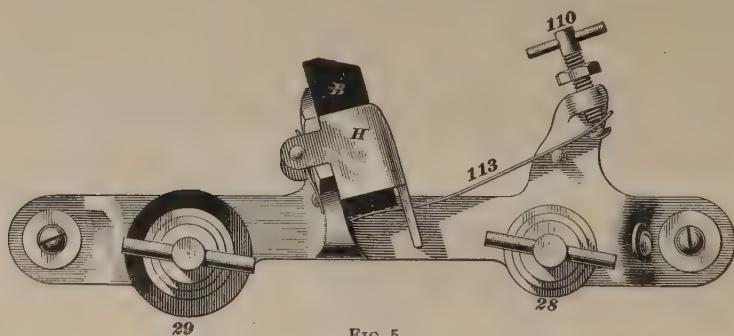
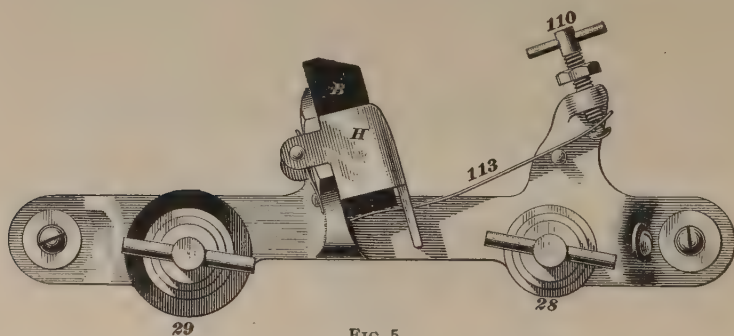
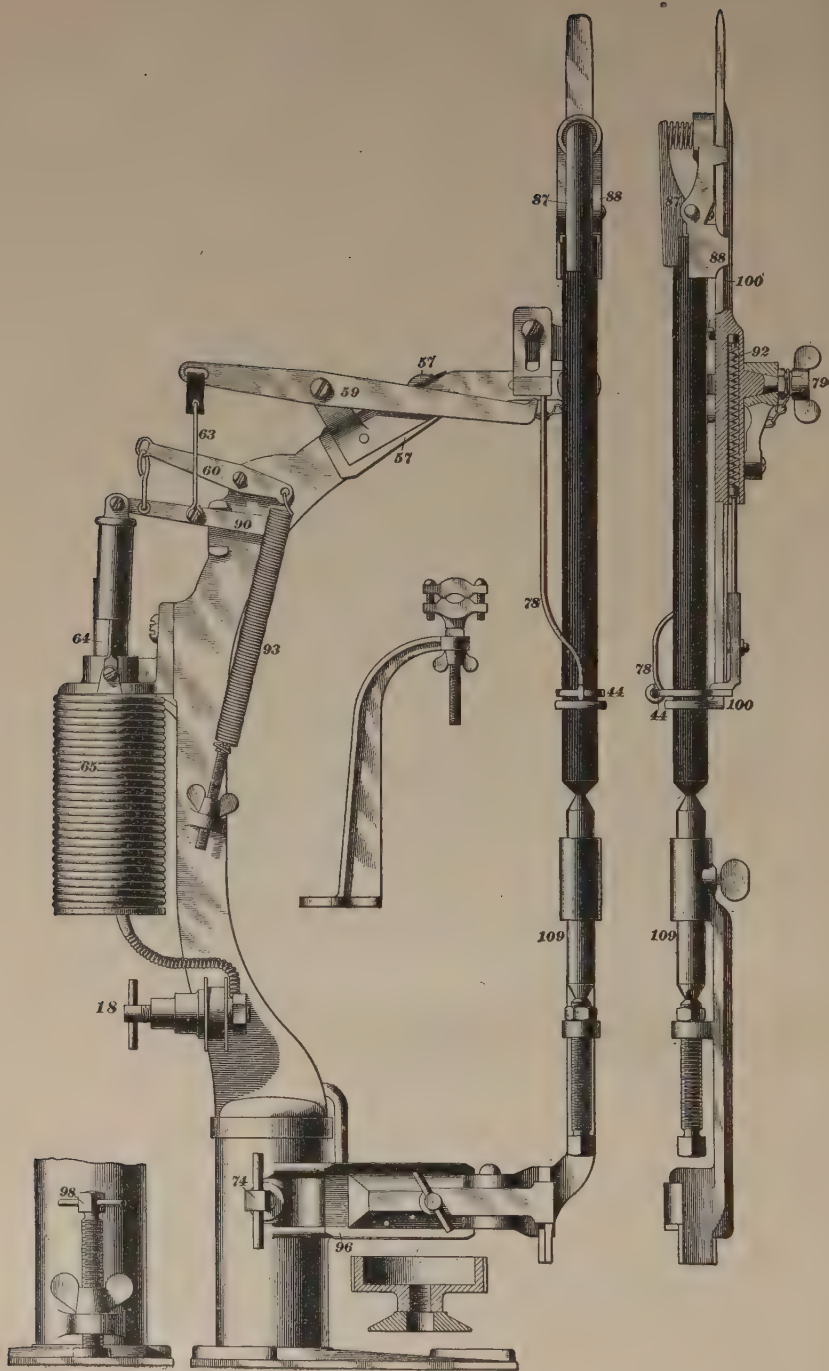
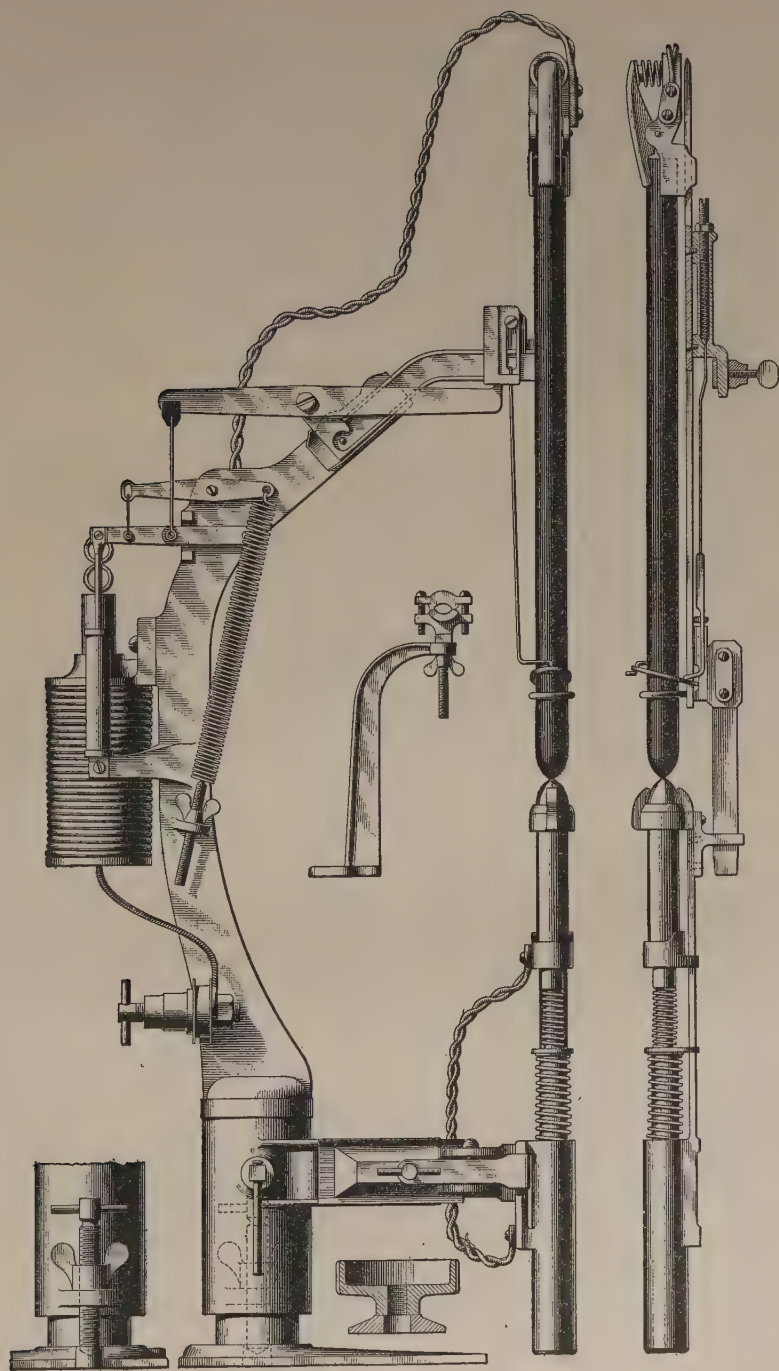

FIG. 4
FIG. 5
FIG. 8
FIG. 9
The armature revolving at high velocity between the pole pieces 7 (which are connected by the upper and lower fields 152), generates the electricity, which it delivers to the commutator 12; from which it is connected by two brushes *B*, *B*, Fig. 4, one of which is shown in *B*, Fig. 5. These brushes, held in suitable brush holders *H*, Fig. 5, transmit the current to the lamp by aid of suitable wires insulated with a
12. When the dynamo is working properly, no sparks should be seen at the brushes. The upper brush is made of graphite, the lower one, shown at *B*, Fig. 5, is of carbon. When it is necessary to remove these brushes for any cause, they can be taken out without disturbing the tension of the springs 113. The tension of this spring, adjusted by the thumb nut 110, should be just sufficient to hold the brush in such contact with the commutator as will prevent sparking; too much tension will result in undue wear and heating of the brushes and commutator. Ordinarily, the spring 113 will have the proper tension when the end supporting the brush will rise from $\frac{3}{16}$ to $\frac{1}{4}$ inch if relieved. This adjustment should be looked after daily, depending on the hardness of the brushes. The brushes should fit the commutator perfectly; if the fit is poor, or if the brushes do not make good contact with the commutator, they will spark badly.
13. The lamp is a self-adjusting arc lamp, and, if properly cared for and a clean reflector used, gives an intensely brilliant light. The wires used to convey the current from the dynamo to the lamp and back again, connect with the dynamo binding posts 28 and 29 in the lower brush holder, Figs. 4 and 7, and
lead to two binding posts on the lamp. Unless the binding posts of the dynamo or lamp are removed and their positions changed, it is impossible to misconnect the wires between the dynamo and lamp, since the two wires are of different sizes. The holes in the binding posts also are of different sizes, to correspond with the wires they are to hold. The lamp, Fig. 8, has two binding posts, the right one, 18, and the one on the opposite side of the lamp directly back of it, so that it is not seen in the figure. The positive wire from the dynamo connects with the left binding post while the negative wire—the wire that carries the current from the lamp to the dynamo—connects with the binding post 18. The positive binding post has the largest hole through it. If the size of wire used for each side is the same, the ends of one of the wires should be doubled back at the ends for about an inch. This will keep this wire from going in the small hole, so that it can be used for one set of binding posts only.
If the lamp burns with a peculiar green hue, throwing little or no light, the current is reversed, passing through the lamp the wrong way. This may happen by reason of binding posts being removed and having their positions changed in replacing. At other times, the dynamo may reverse its current without apparent cause. This occurs but seldom and is caused by some radical changes brought about by exposure to strong magnetic influences. When the current is reversed through the lamp, the trouble can be readily overcome by reversing the position of the binding posts 28 and 29 in the lower brush holder, Fig. 4, putting post 28 in place of post 29, and vice versa, taking care not to disturb the fibrous insulation under the posts.
14. The current flowing from the dynamo enters the lamp at the left binding post, which, in Fig. 8, is behind the binding post 18. From this, it passes through a No. 8
15. Before starting the lamp, see that the point of the lower copper electrode 109, Fig. 8, is clean and free from scale; this scale is formed when the lamp is idle, and should be removed with a file, maintaining an angle of about 45°, with a point $\frac{1}{8}$ inch in diameter. When this scale is allowed to accumulate, it acts as a non-conductor and prevents the current from passing through, and no light can be had until it is removed. This electrode also should be clean where it makes contact with the holder, as any foreign substance has a tendency to insulate the copper from the holder. If the copper electrode burns or melts off at the upper end, the equipment is running too fast and the speed should be promptly reduced by throttling the steam. As before stated, this is shown by a greenish instead of a white light from the arc. When satisfied with the condition of electrode 109, a carbon should be put in by removing the carbon holders 87
and 88 from the guide 100. After securing the carbon in the holder, grasp it by the thumb and forefinger, with the remaining fingers resting on guide 100; then it can readily be put in place. With a little practice, the lamp can be trimmed in a very few moments, and in the dark if necessary. After putting in a new carbon, always push down on lever 90, Fig. 8, and notice if the carbon lifts and falls freely. If it does not lift, it is not in proper place in the clutch 44; if it does not fall down freely, turn it around until a free movement is secured. A carbon should burn 8 or 9 hours. Before putting a carbon into the lamp, see that it is smooth, and that it is free from cracks, so it will work freely through the carbon holders. The best carbons are none too good for this service.
16. The tension spring 93, Fig. 8, serves two purposes: First, it brings together the points of the carbons so as to establish the arc when the dynamo is set in motion, a complete circuit being necessary to establish a current; if the carbons are separated but a fraction of an inch, the lamp will refuse to work, the current refusing to jump across the separation. The presence of oxidation or scale on the electrode will cause this separation of the carbons, though, to all appearances, an actual contact exists. Second, with the lamp properly trimmed, steam turned on, and the dynamo set in motion, the spring 93 performs its second function. As the current enters the lamp and passes through the solenoid 65, the iron magnet 64 is drawn down, thus providing, through the medium of the lever 90 and lever 59, for the necessary separation of the carbons. The spring 93 is connected to the end of lever 60 and exerts a force in the opposite direction to that of the solenoid. When this spring is properly adjusted, it prevents the solenoid pulling the carbons too far apart. If it is too strong, the magnet will be unable to pull the carbons apart and no light will be produced. This is noticeable when running with low steam pressure. If the dynamo is run long in this condition the heat generated by the current will be sufficient to burn out
17. Adjusting the Clutch.—If the carbon feeds too fast, the clutch rod 78, Fig. 8, should be adjusted to take up
18. The lamp can be moved in all directions for focusing. The vertical focus regulates the distance at which the light will strike the track in advance of the locomotive. To get the proper vertical focus, loosen the setscrew 74, Fig. 8, and move the lamp up or down by changing the adjusting screw 98. To make the light strike closer to the engine, raise the lamp; to make it strike farther away, lower the lamp. To move it sidewise, backwards, or forwards, loosen the hand nuts above the foot-piece, placing the lamp in the proper position, and tighten them up in place. The light should leave the reflector in parallel lines, and, to secure this result, the point of the copper electrode must be as near the center of the reflector as possible, and it should be about 1 inch above the top of its holder. If it is any higher than this, it will be too close to clutch 44 and heat the clutch too much. Also, place the lamp so that the carbon will be directly under the center of the chimney hole. The back of the reflector is supported by an adjustable step for purposes of regulation. If any shadows are cast on the track, the
19. Care must be taken to avoid short circuits. These are most liable to occur: (1) in the washers under the binding posts 28 and 29 of the dynamo, Fig. 4; (2) in the fiber 96 of the lower arm, or the fiber 57 of the upper arm, Fig. 8, of the lamp; and (3) in the insulation on the main wires, cab wires, etc.
When engines are pooled, some competent person should have the care of the lights. Reflectors should be cleaned the same as with oil lights. Carbons should be kept in a dry place and prevented from jarring around in boxes, causing fractures that lead to road failures. As all light generates heat, the trouble experienced by the cracking of the glass in the headlight case has been met by moving this glass 5 or 6 inches forwards of the usual position. Cutting the glass in two sections has also been practiced and an oval or bent glass will last indefinitely. Do not attempt to remove the reflector from the case until the wires have been disconnected and the top carbon holder 100 has been removed by loosening the thumb nut 79, Fig. 8. Another style of lamp is shown in Fig. 9, but the foregoing directions apply equally to both styles.
- (2) Explain how the cylinder lubricator feeds should be set for a cross-compound locomotive and give reasons.
- (3) Why is an intercepting and reducing valve necessary in a cross-compound locomotive?
- (4) What precautions should be observed with a Richmond compound when drifting?
- (5) State how a Richmond compound should be handled in starting a train, both under ordinary conditions and when on a grade.
- (6) State the duty of the automatic air-discharge valve of the Richmond compound, and explain how it operates.
- (7) Explain the duty of the overpass valves in a Richmond compound and how they operate.
- (8) Explain the operation of the reducing valve of the Schenectady compound.
- (9) How should the reverse lever and throttle of a Richmond compound be handled to obtain the best results?
- (10) What would you do in the event of a main rod on a cross-compound breaking?
- (11) In the Schenectady compound, what is the duty of the oil dashpot and how does it operate?
(12) How great a tension should the reducing valve spring *s*, Fig. 9, of a Pittsburg compound have, and how is the tension of this spring regulated?
(13) How is the rapidity of movement of the oil-dashpot piston regulated in a Schenectady compound?
(14) Sometimes it is desirable to work a Pittsburg compound as a simple engine with the reverse lever not in the corner notch; how can this be done?
(15) Explain how a Schenectady compound is changed from compound to simple and again changed from simple to compound.
(16) What precaution should you observe with: (*a*) a Schenectady compound when drifting? (*b*) a Pittsburg compound?
(17) In the event of a main crankpin breaking on the high-pressure side of a Schenectady compound, how would you proceed to get the engine into a terminal?
(18) Explain how the intercepting valve of a Pittsburg compound is operated.